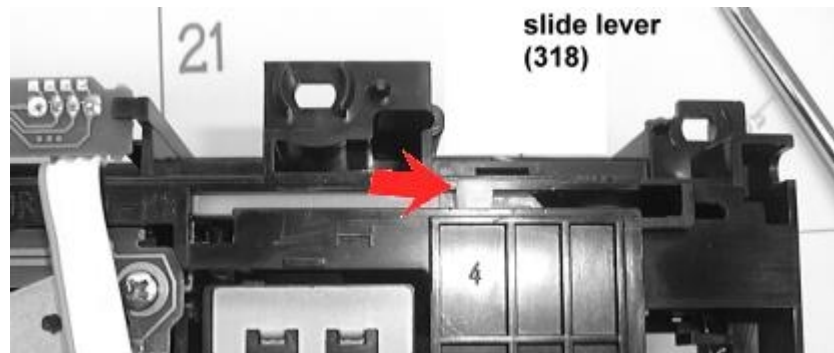

Figure 4
- 5) Push the slide lever (318) on the bottom of the mechanism toward the traverse deck as far as it will go (Figure 4).